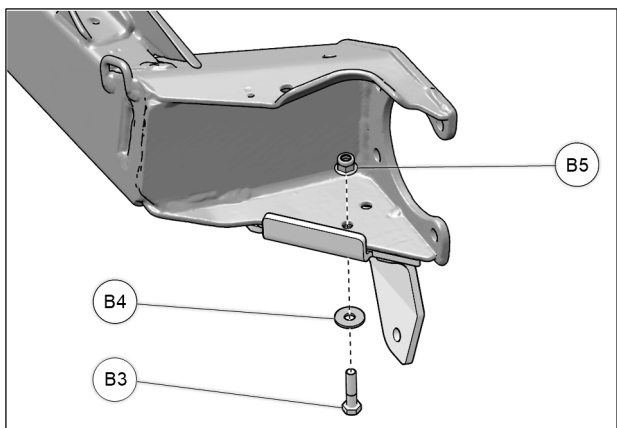

Fig. 5
5. From the bottom, insert a M8x35mm bolt (**B3**), along with washer (**B4**), at the position shown below, and secure anchor bracket with provided M8 nut (**B5**). Tighten to 40 N•m [37 lb•ft]. See Fig. 5